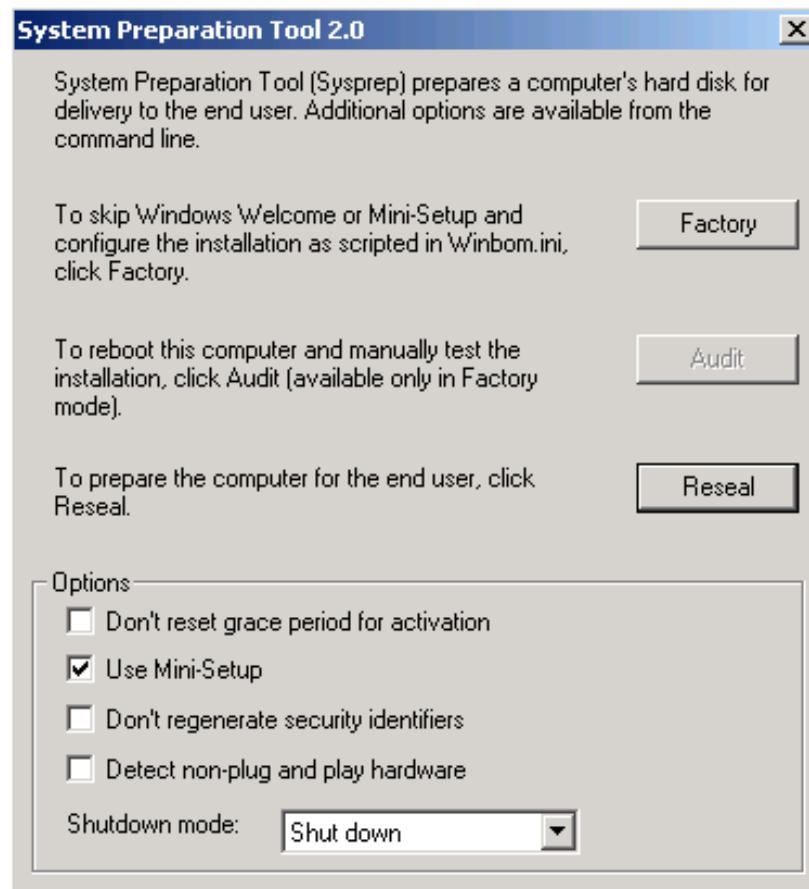

Figure 3-3 Options for the System Preparation Tool
- Select "**mini-setup**". Ensure that the Shutdown Mode is set to "**Shutdown**", then click **reseat** as shown in Figure 3-3 on page 58.